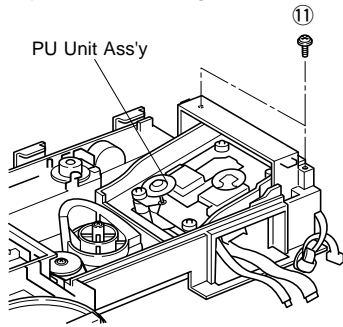

Fig. 6
a. Remove 2 screws (⑪) and then remove the PU Unit Ass'y as shown Fig. 6.